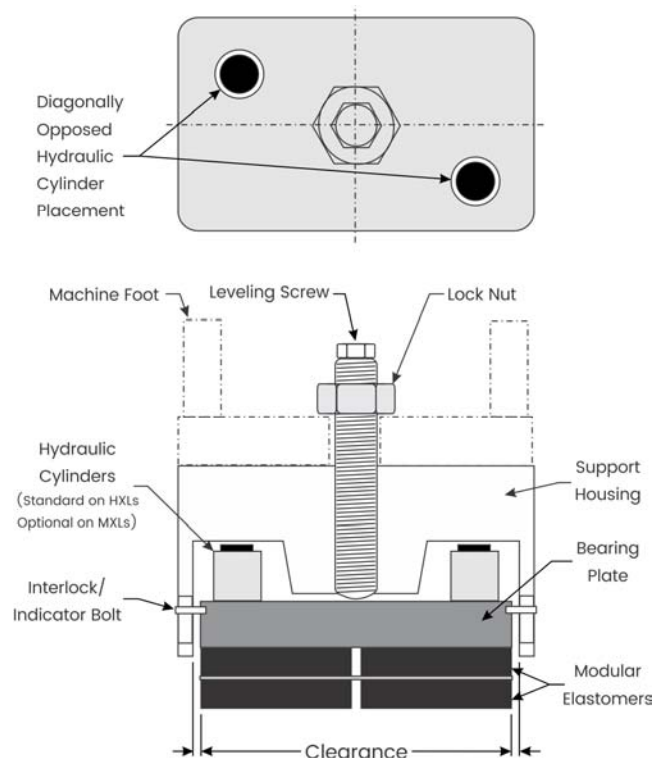

Figure 2
2. Thread the “M” style leveling screw into the isolator by hand or with a small wrench. The leveling screw should turn easily into the isolator housing until it contacts the internal bearing plate (see Figure 2). If it does not, remove the leveling adjustment screw and check for proper clearance, damaged thread, or debris in the threaded hole.
3. When the leveling screw contacts the bearing plate, turn the leveling screw two additional turns. Hydraulic cylinders may be necessary to remove weight in order to turn the leveling screw. Place a minimum of two appropriate size cylinders, diagonally opposed from each other, on top of the bearing plate as shown in Figure 2. Do not use wrench extensions or a hammer to force the leveling screw to turn.
6. Turn the leveling screw into the isolator’s housing until it bottoms on the isolator’s internal bearing plate. See Figure 2.